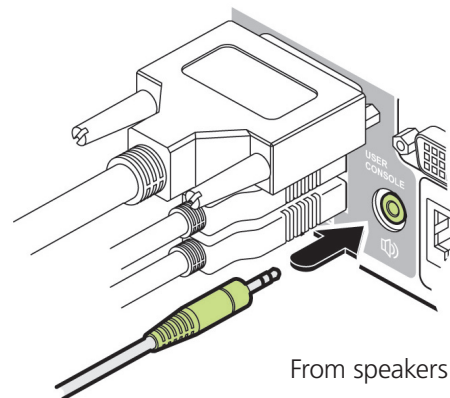

Figure 3-6. Connecting speakers to the user console.
5. Audio: Where required, connect the lead from your speakers to the audio connector. See Figure 3-6.